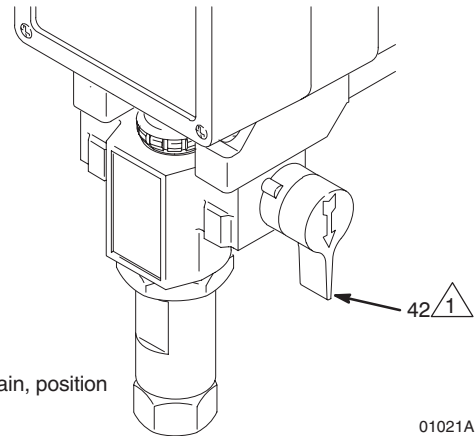

Fig. 9
1. **Open the pressure drain valve (42).** See Fig. 9.
3. **Put the suction hose (32) into the paint.** If you are pumping from a pail, push the drain hose (33) down below the top of the pail to avoid splashing paint when the drain valve is opened.